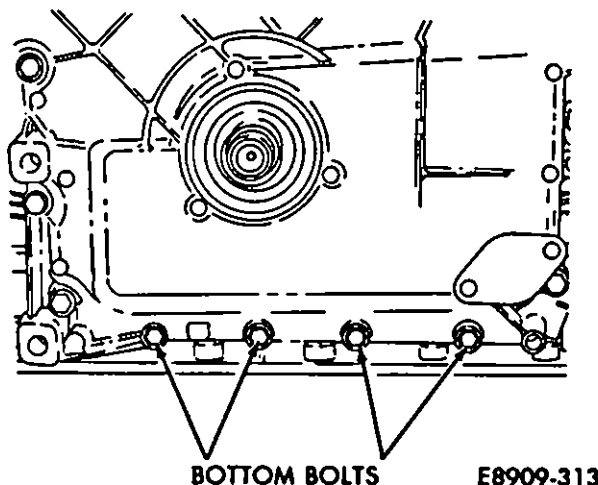

Fig. 8—Loctite 271 on Bottom Bolts
(4) Install the mounting bolts. On the four bottom bolts, apply Loctite 271 to the bolt threads (Fig. 8). Tighten all front cover bolts to 12 N·m (9 ft-lbs) torque.